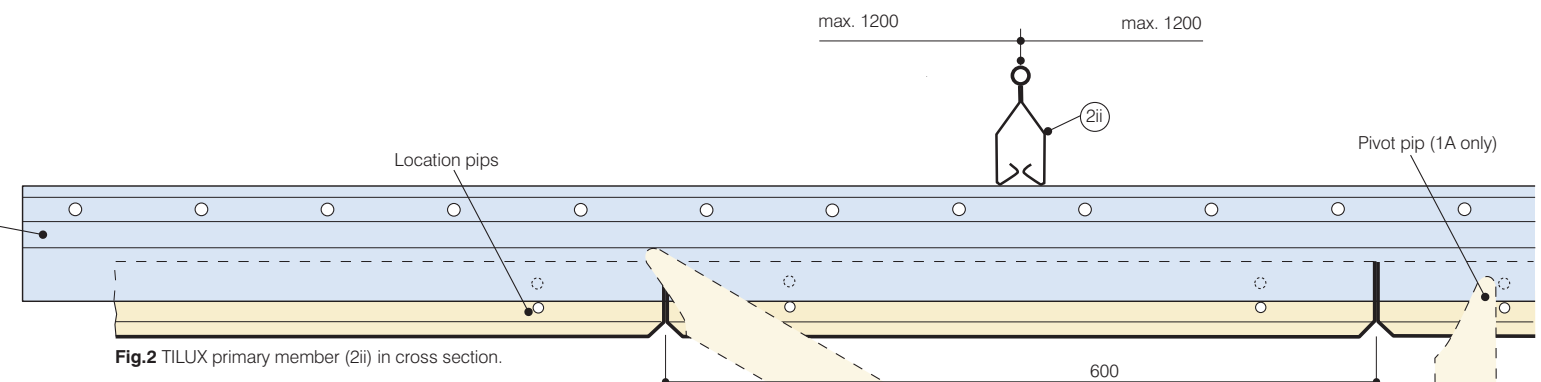
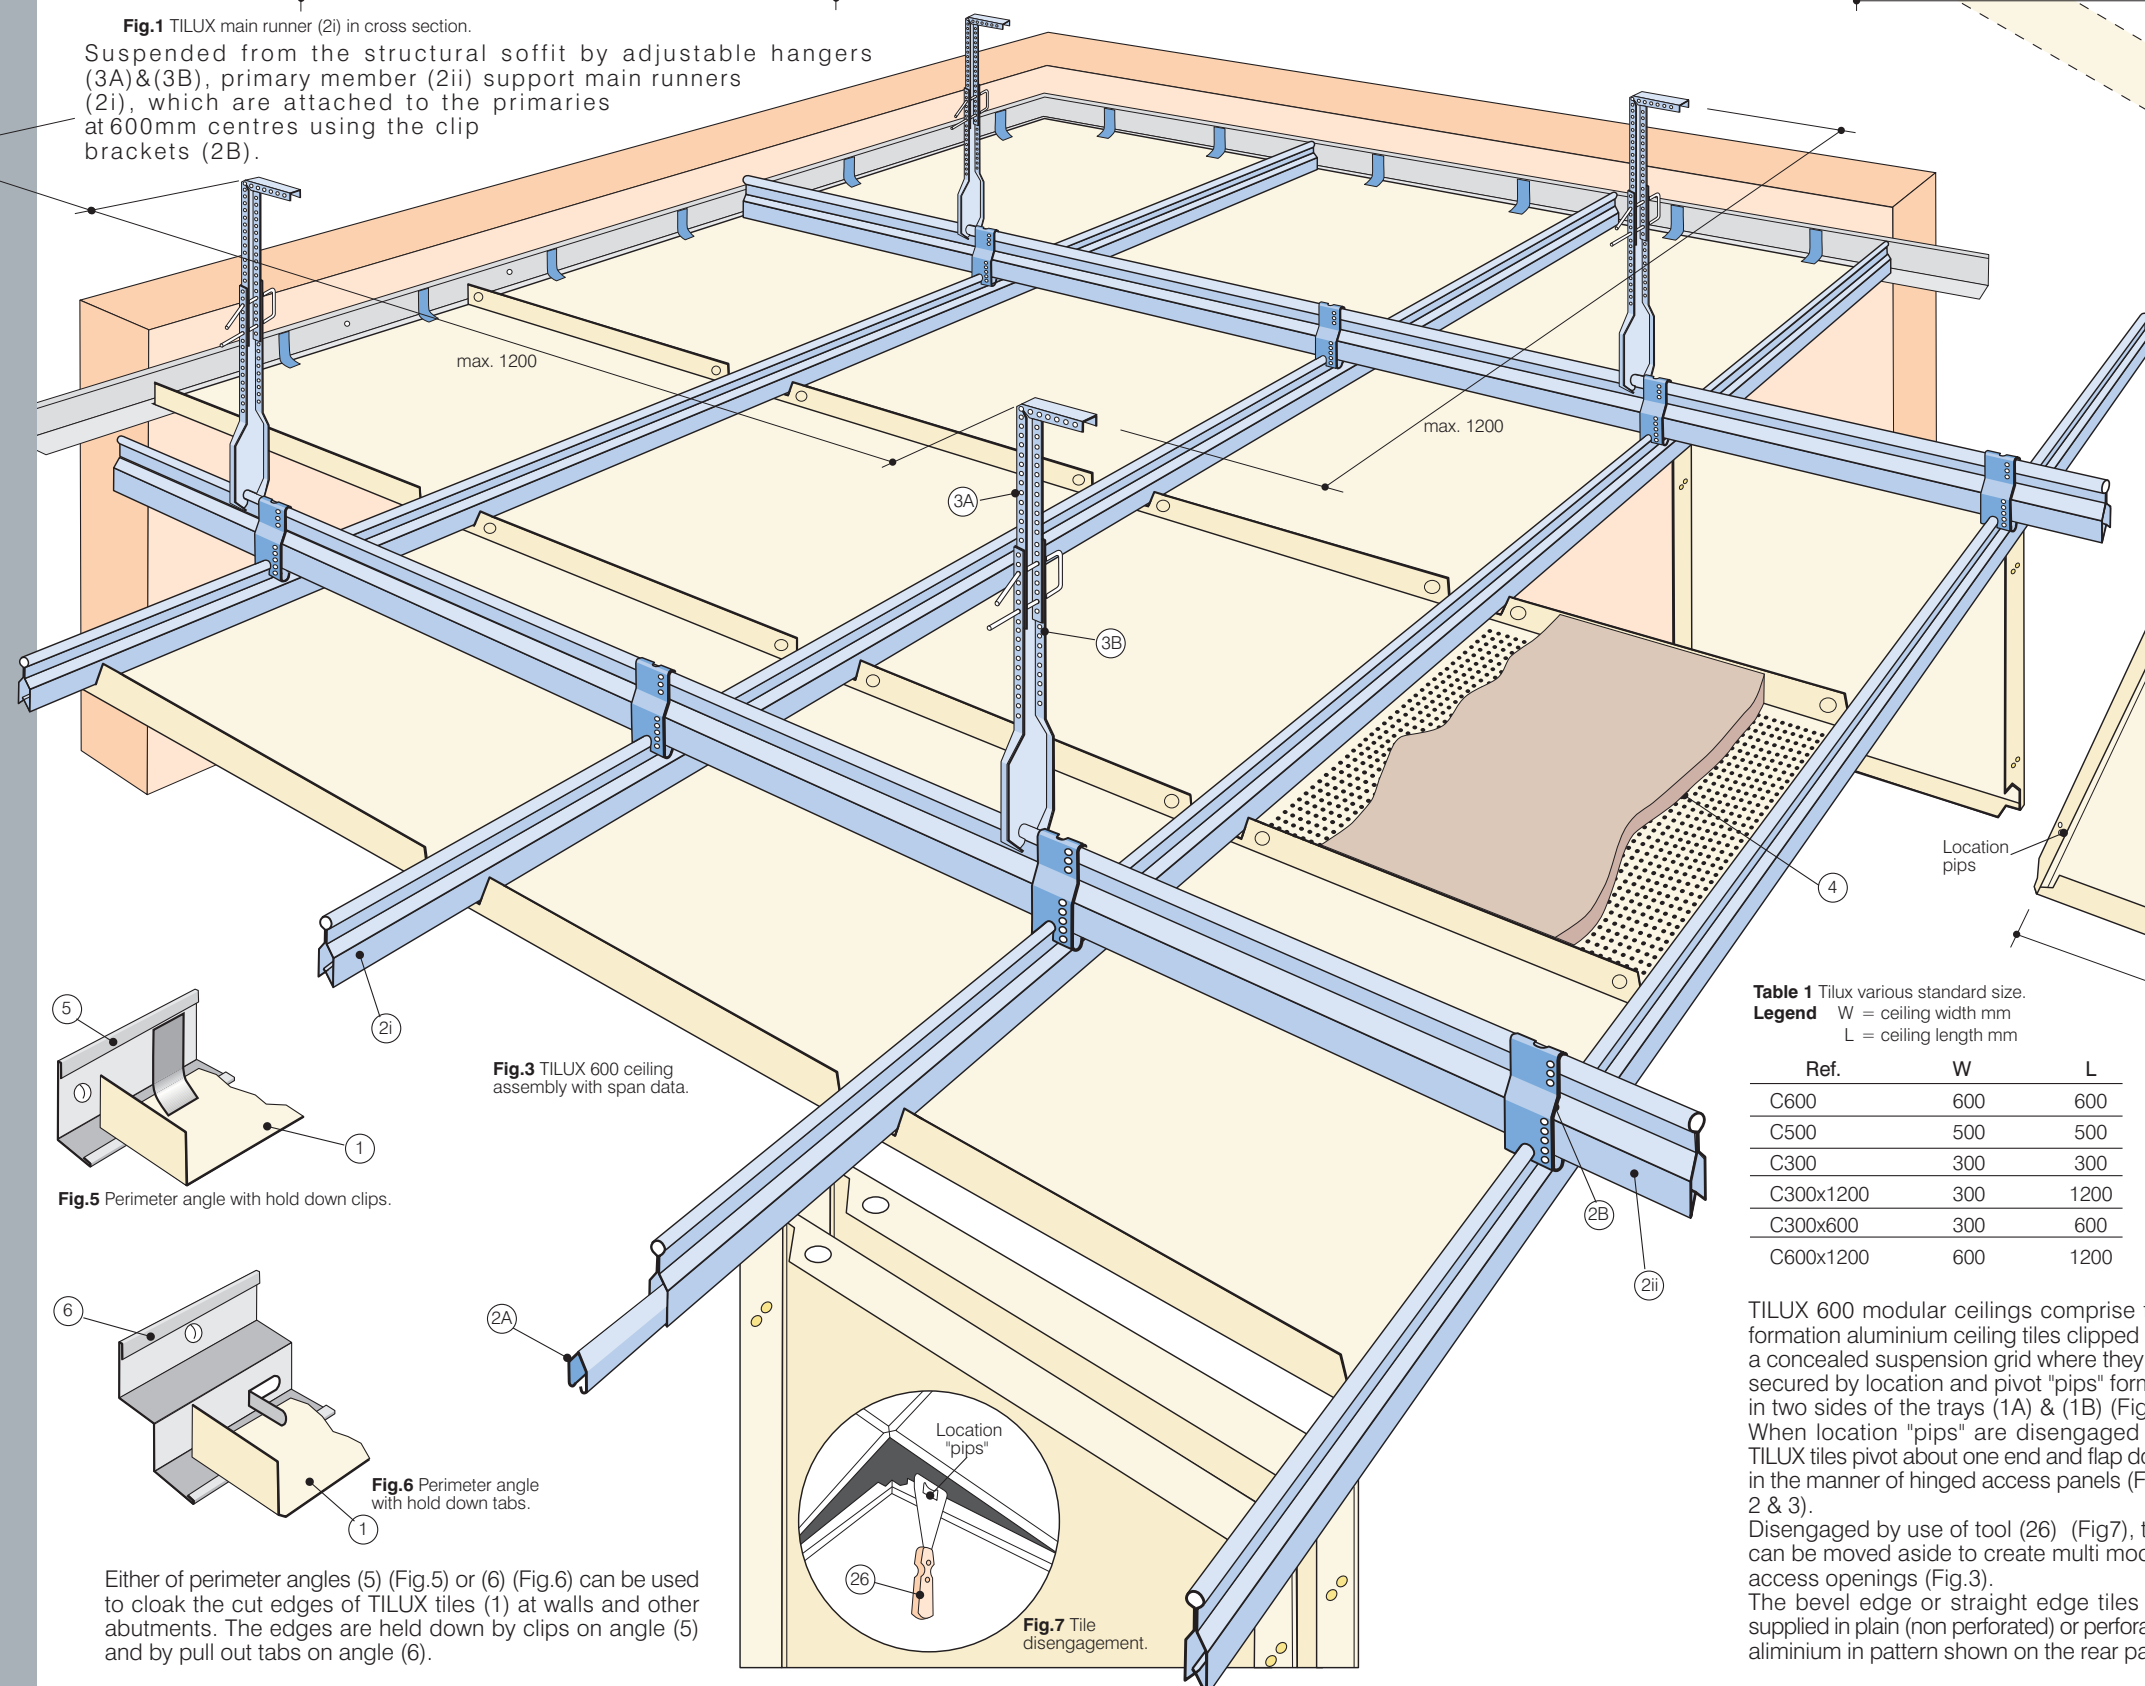
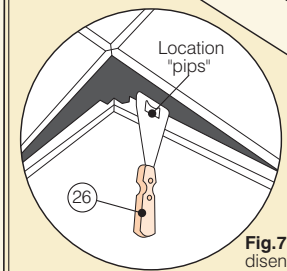
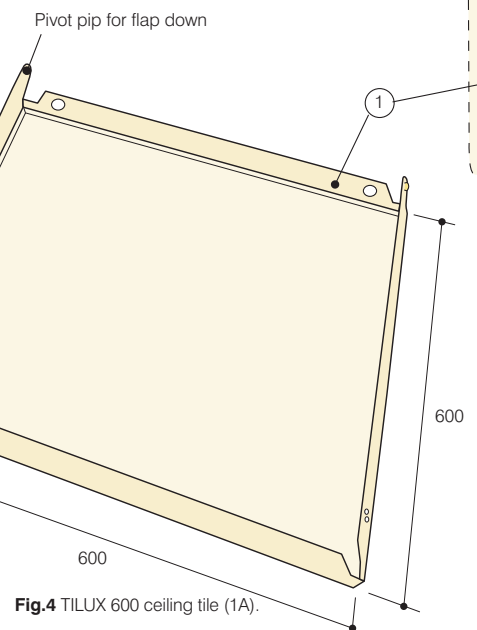

Fig.2 TILUX primary member (2ii) in cross section.
Fig.3 TILUX 600 ceiling assembly with span data.
Fig.7 Tile disengagement.
Fig.4 TILUX 600 ceiling tile (1A).
TILUX 600 modular ceilings comprise tray formation aluminium ceiling tiles clipped into a concealed suspension grid where they are secured by location and pivot "pips" formed in two sides of the trays (1A) & (1B) (Fig.4). When location "pips" are disengaged the TILUX tiles pivot about one end and flap down in the manner of hinged access panels (Figs. 2 & 3). Disengaged by use of tool (26) (Fig.7), tiles can be moved aside to create multi module access openings (Fig.3). The bevel edge or straight edge tiles are supplied in plain (non perforated) or perforated aluminium in pattern shown on the rear page.
Available in white pre-coated stove enamel finish they can be supplied in special finished subject to minimum order quantity. Perforated TILUX tiles incorporating inert fibrous insulation pads (4) (Fig.3) are specified where a sound absorbent ceiling membrane is required. For thermal insulation purposes plain (non perforated) tiles with pads can be used.